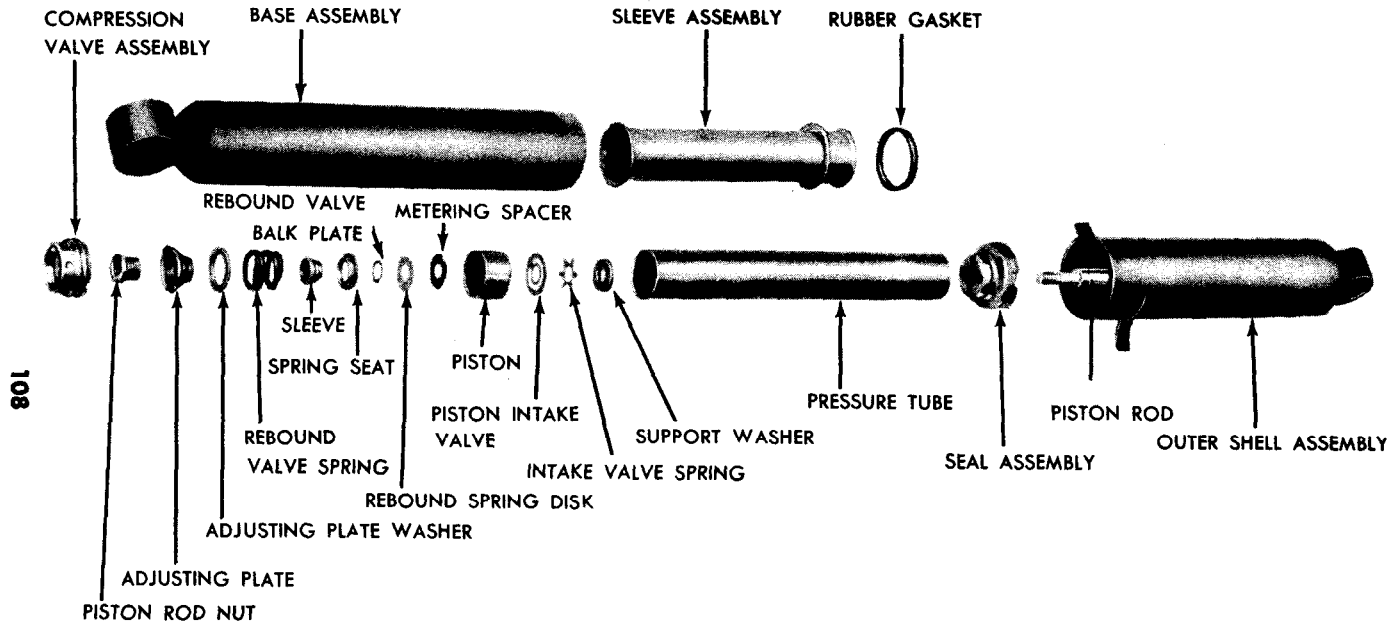

Figure 89 — Monroe Shock Absorber — Exploded View
d. Cleaning and Inspection (fig. 89). Clean all parts in dry-cleaning solvent. Replace the rubber gasket and seal assembly regardless of its condition. Replace all parts that are cracked, bent or excessively worn. Replace the piston if the diameter is worn to less than 0.997 inch. Replace the pressure tube if the inside diameter is worn to more than 1.001 inches. Replace the outer shell if the piston rod is bent or excessively worn. Replace the compression valve assembly if the valve spring is broken or if the adjustment slots are excessively worn. Replace the base assembly if there are any bad dents in the casing or if the threads are damaged. Replace the sleeve assembly if it is bent or out of shape.
(1) **INSTALL PRESSURE TUBE AND INTERNAL PARTS (fig. 89).** Place the eye of the outer shell in a vise. Place the seal assembly at either end of the pressure tube and press the seal assembly in the tube. Install the special thimble 41-T-1657 on the threaded end of the piston rod. Push the pressure tube down into the outer shell and remove the pilot tool from the piston rod. Place the following parts on the piston rod in the order given; piston support washer with the flat surface facing down; intake valve spring with the bent ends facing up; piston intake valve; piston with the skirt of the piston facing up; metering spacer; rebound spring disk; rebound valve back plate; spring seat with the flat surface facing down; sleeve with the tapered